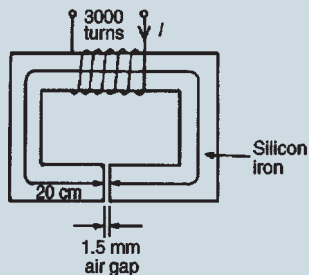

Figure 9.7
4. For the magnetic circuit shown in Fig. 9.7 find the current I in the coil needed to produce a flux of 0.45mWb in the air gap. The silicon iron magnetic circuit has a uniform cross-sectional area of 3cm^2 and its magnetisation curve is as shown on page 160.